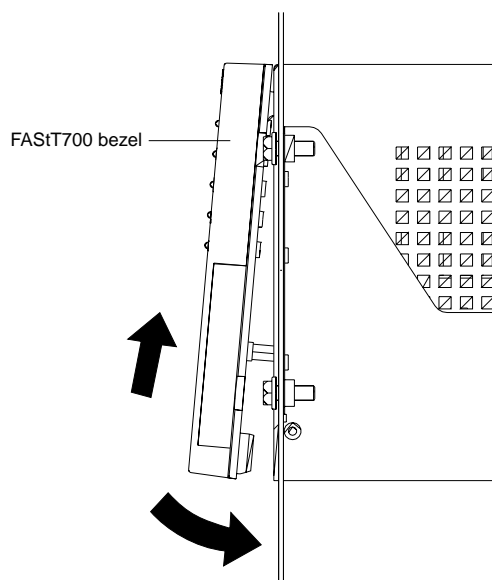

Figure 21. Replacing the FAST700 Storage Server bezel
2. To replace the bezel, slip the top edge of the bezel under the lip on the chassis, then push the bottom of the bezel until the pins snap into the mounting holes, as shown in Figure 21 on page 15.